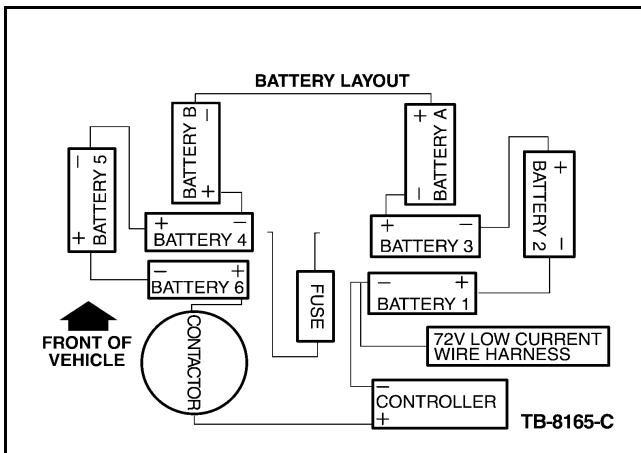

Figure 2 - Article 05-4-12
2. Obtain two (2) known good batteries (Part # 10655). Check the batteries to be sure they produce at least 11V each or 22V combined. These batteries will be referred to as batteries A and B for the remainder of this TSB.
5. Connect the (+) terminal of battery B to the (-) terminal of the battery pack #4 battery (Figure 2). Connect the (-) terminal of battery A to the (+) terminal of the battery pack #3 battery.